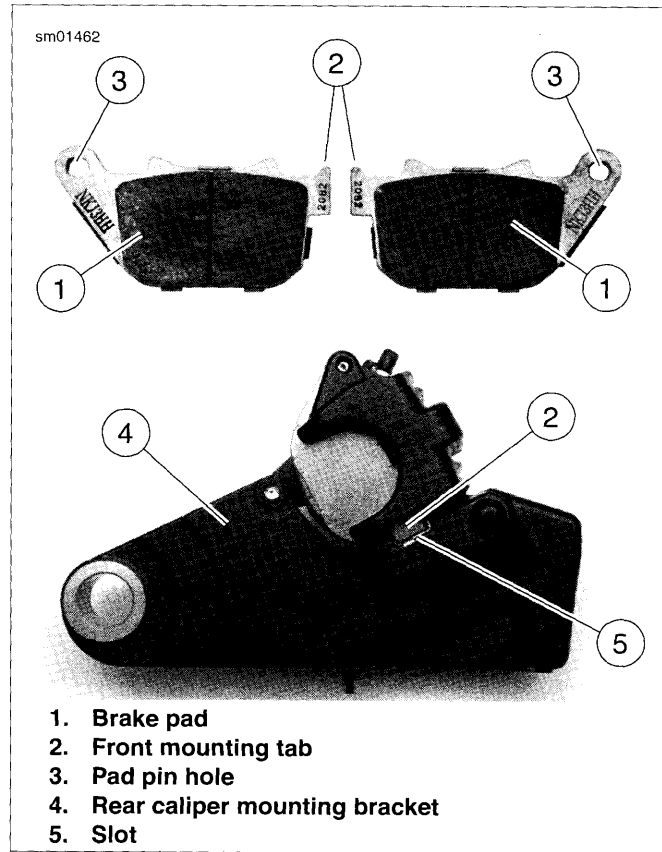

Figure 2-107. Installing Rear Brake Pads
5. See Figure 2-107. Insert brake pads (1) into caliper with friction material on pad facing brake disc. Curved portion of pad fits into recessed area of caliper. Make sure brake pad front mounting tab (2) fits into slot (5) in caliper mounting bracket (4).
- *See Figure 2-107. Pad front mounting tabs (2) must be fully seated in mounting bracket slot (5).*